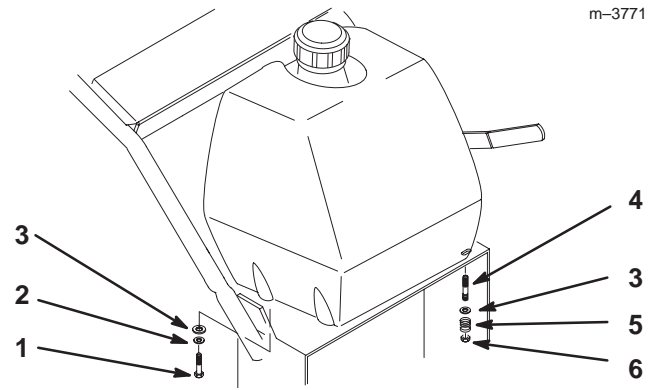

Figure 12
- Align fuel tank with the top of the rear frame (Fig. 12).
- Secure the right side of the fuel tank to the rear frame with 2 bolts (5/16 x 7/8 inch), lock washers (5/16 inch) and washers (5/16 inch) (Fig. 12).
- Secure the left side of the fuel tank to the rear frame with 2 studs, washers (5/16 inch), springs and locknuts (5/16 inch) (Fig. 12).